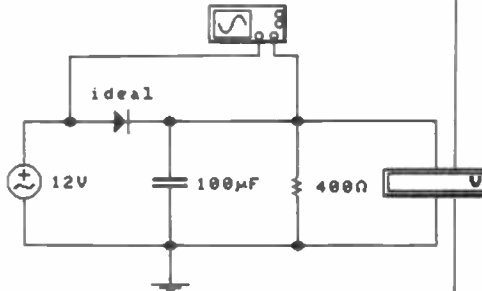

Fig. 3.19 Half-wave rectifier with reservoir capacitor (Assignment 3.3).
5. Now add a 100μF smoothing capacitor (Fig. 3.19). Once again display the input and output waveforms. Note the shape of the output waveform. As before, record the measured value of d.c. output voltage and the peak-peak ripple voltage measured with the oscilloscope.